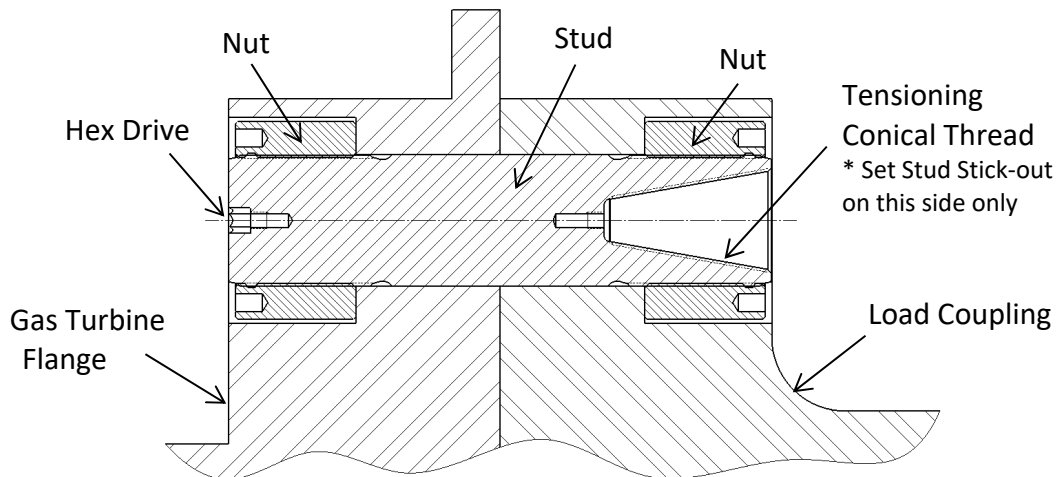

Figure 6A – Cross-section View of Gas Turbine to Load Coupling Bolted Flange Connection for most applications
2. Slide the stud and cylindrical nut assembly into the flange as shown in Figure 6A and 6B.